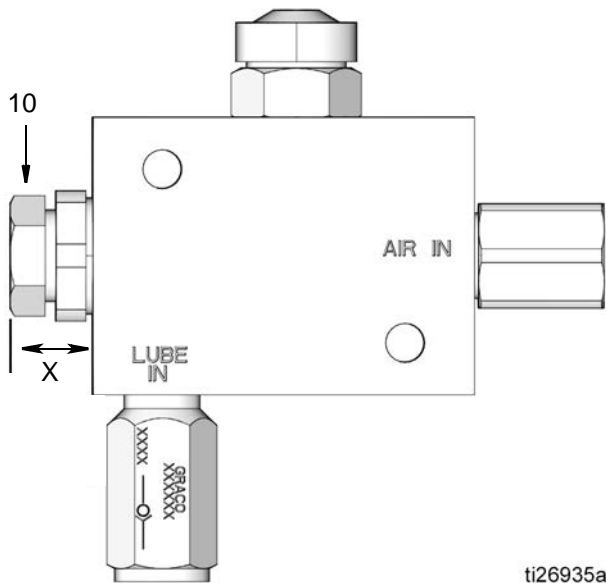

FIG. 7
- Measure and note the distance/location (X) (FIG. 7) of the adjustment screw (10) to ensure it is set to the same distance/location during reassembly.